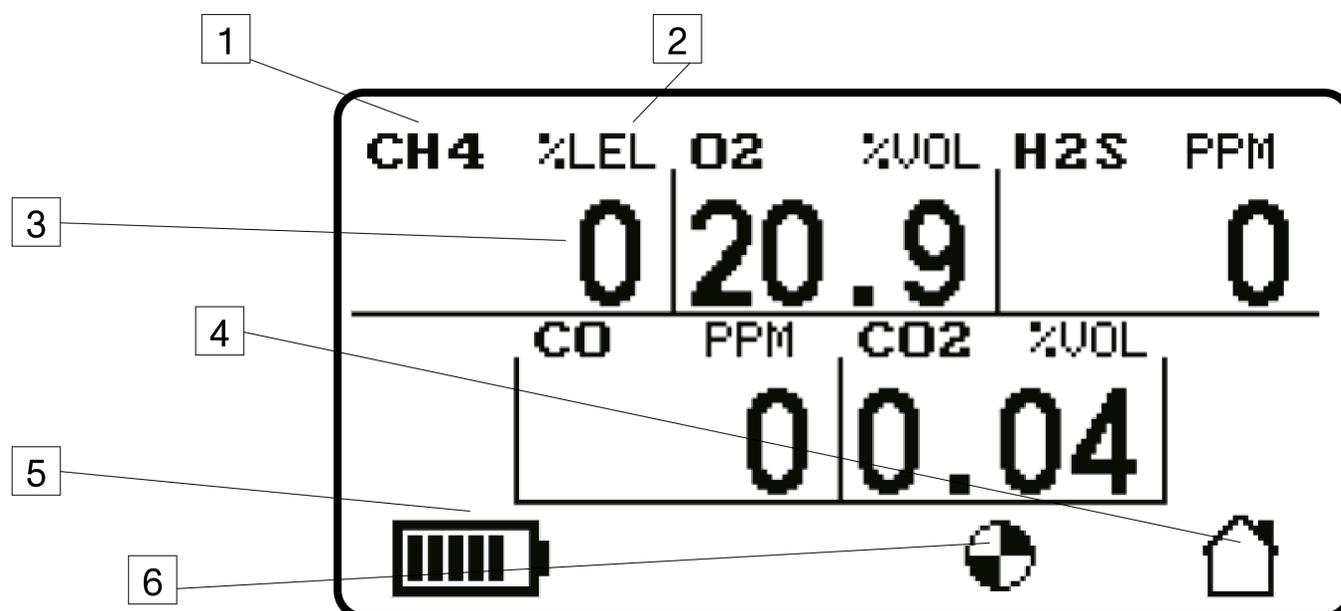

Figure 12:
When the autozero has finished or been skipped, the next screen is the home screen (Figure 12) and displays the gas levels. The next screen on the Gas-Pro TK edition of Gas-Pro is the Tank Check  screen. See the Tank Check Mode section (see Section 2.9) for more information.
- Figure 12 shown below is for 5 gases in clean air.